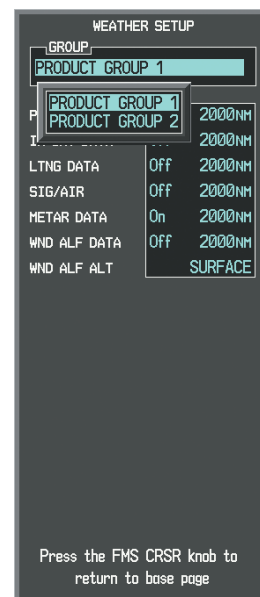

Figure 6-59 Weather Data Link (CNXT) Page Setup Menu
- 4) Turn the small **FMS** Knob to select 'PRODUCT GROUP 1' or 'PRODUCT GROUP 2', and press the **ENT** Key (Figure 6-59).